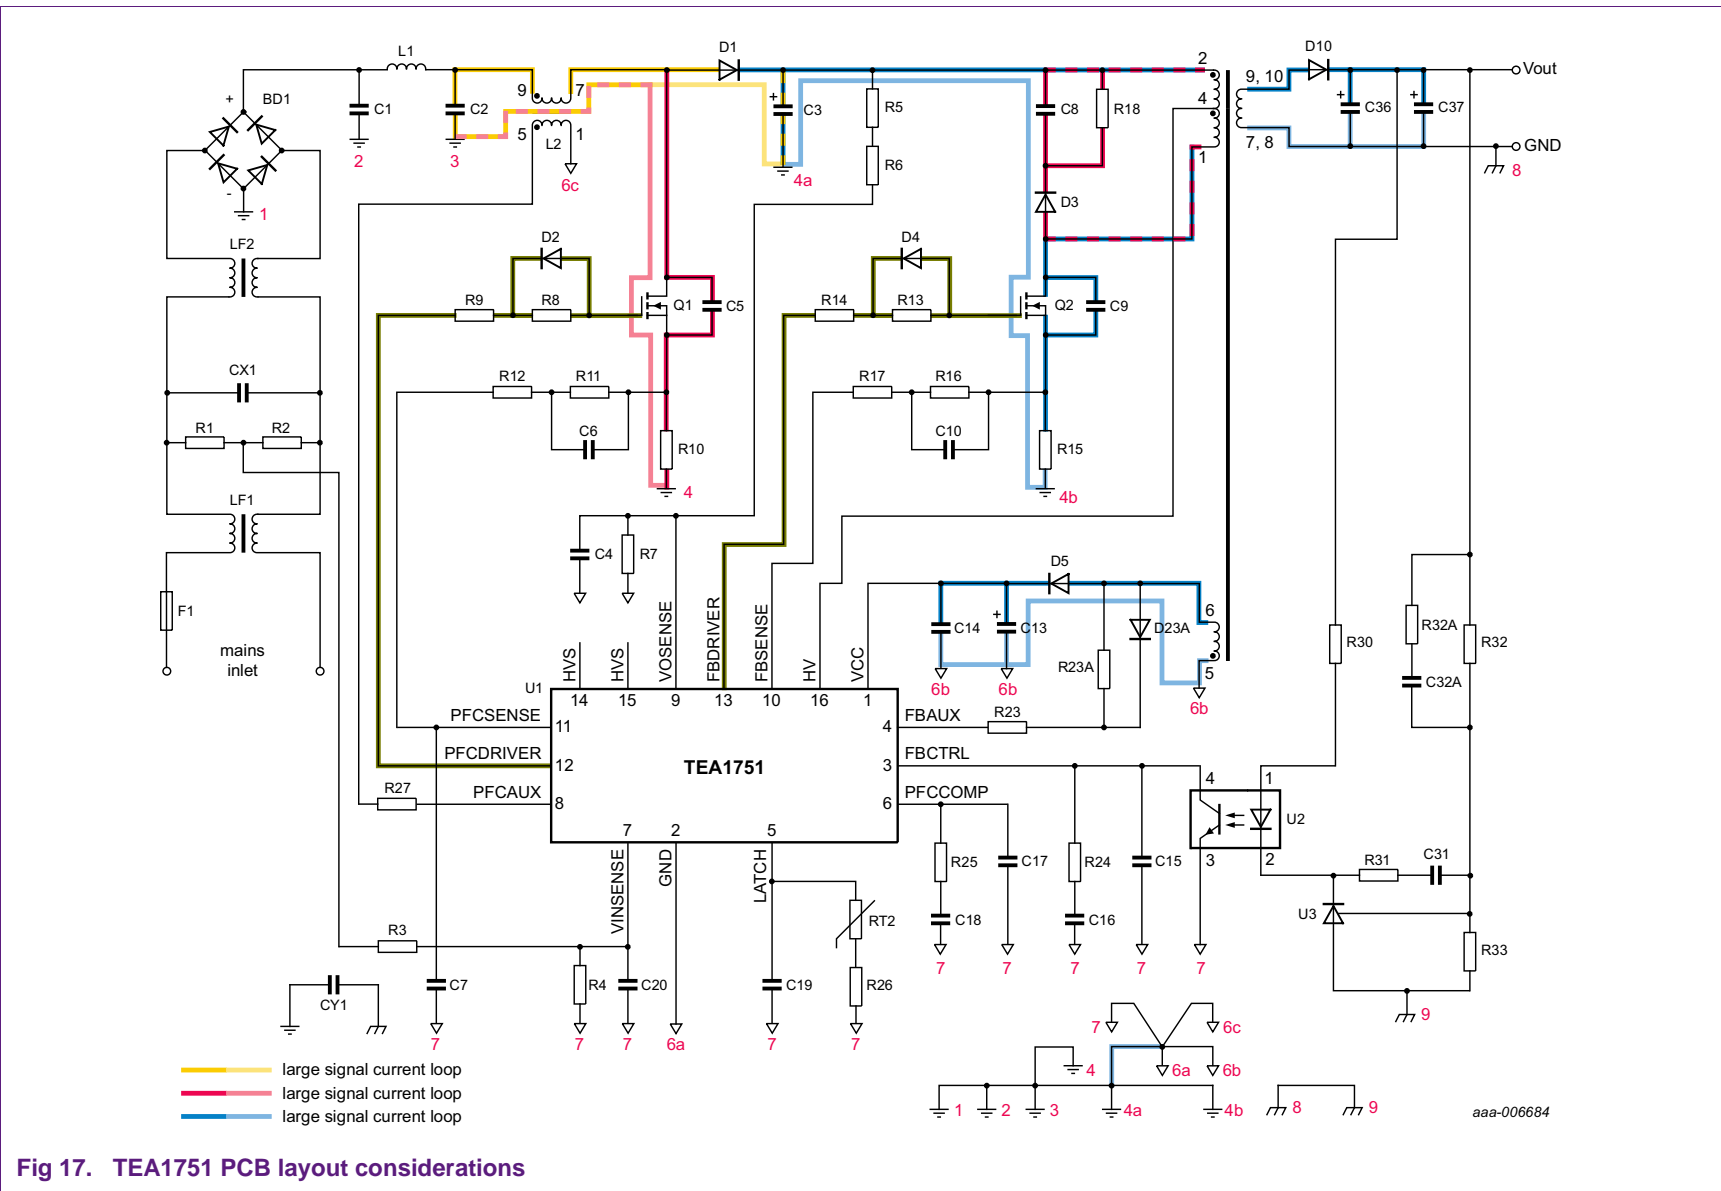

Fig 17. TEA1751 PCB layout considerations
- Separate large signal grounds from small signal grounds (see Figure 17). A triangular symbol indicates small signal grounds. All other ground symbols are related to large signal grounds.
- Make the print area within the indicated large signal loops (see Figure 17) as small as possible. Each indicated large signal loop has its own color. Make the copper tracks as short and wide as possible.
- The connection between both MOSFETs (PFC and flyback) and the IC driver outputs must be as short as possible (green line in Figure 17). Use wide tracks. Increase the distance between the copper tracks and/or preferably use a separate guided ground track for both connections minimizing the coupling between the PFCDRIVER and FBDRIVER. A circuit diagram according to Figure 16 can be added if it is impossible to place the MOSFET and the IC close to each other.
- The power ground and small signal ground are only connected with one short copper track (make this track as short and as wide as possible). Preferably, it should become one spot (connection between ground 4a and ground 6a, shown as a blue line in Figure 17).
- Figure 17 shows an overview of the hierarchy of the different grounds at the bottom. Connect the anode of the TL431 (ground 8) to ground 9 using one special separately connecting copper track. Minimize all other currents in this special track. Make the connection as close as possible to the output.